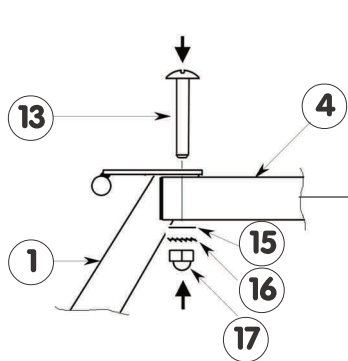

Figure 4
- 1 - Install the fixed leg (1) onto the rails (4) but do not tighten the screws (13), (15), (16) and (17), as shown in detail view (see Fig.4).